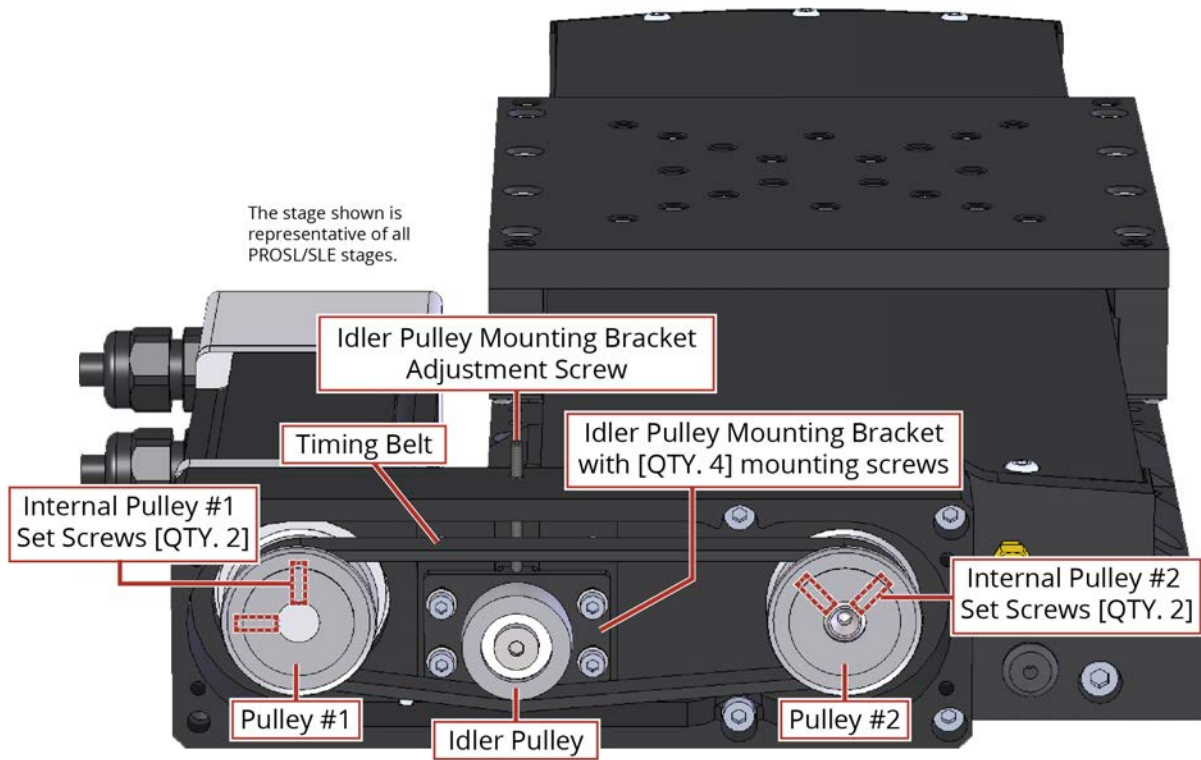

Figure 4-9: Foldback Motor Part Callouts
3. Check that the pulleys are tight on their respective shafts (Figure 4-9).